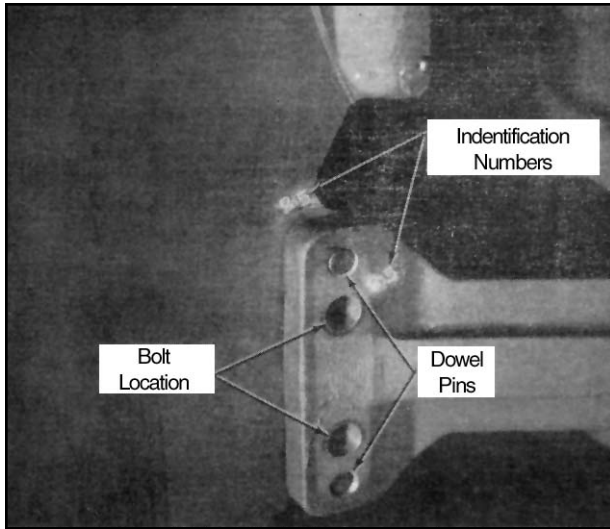

Figure 34
- The number stamped on the yoke corresponds to a like number on the blade, Figure 34. When reassembling, be sure to match blade and yoke.